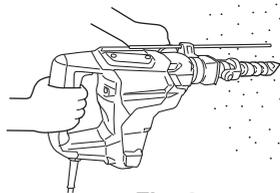

Fig. 4
1. How to drill holes (**Fig. 4**)